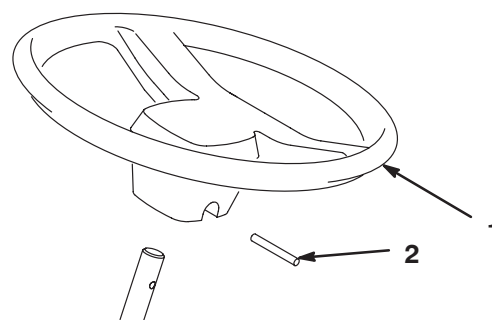

Figure 2
3. Secure the steering wheel in place with the roll pin (Fig. 2).